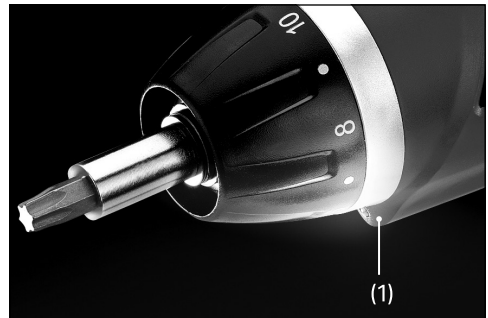

Fig. 6
- To change the handle position, press the handle release button (9) and twist the handle (3) through 180° until it clicks in place.
7.5 LED Worklight (Fig.6)